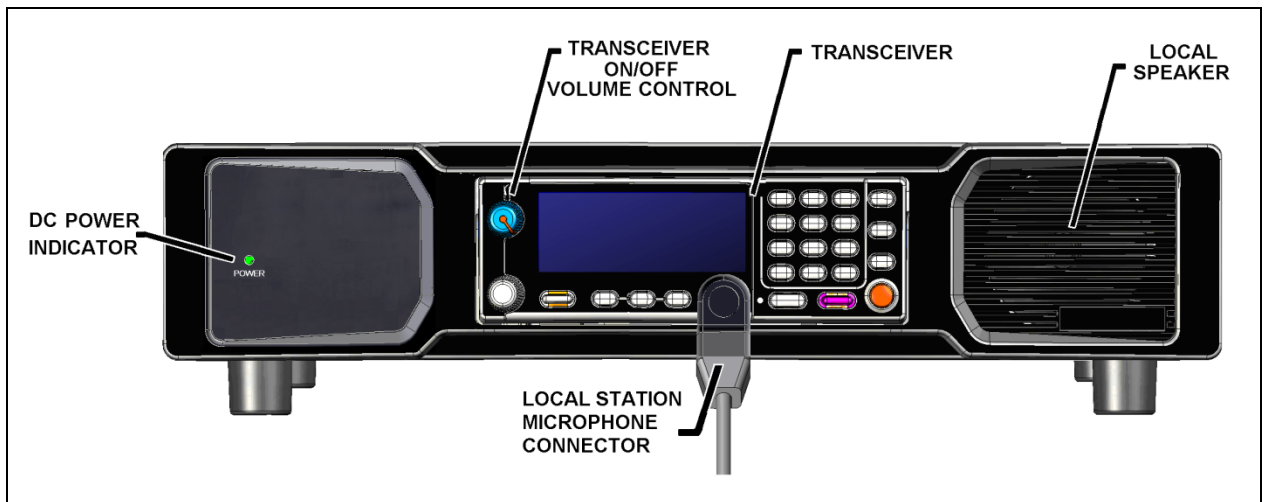

Figure 3-1: Front Panel Features – Local Control Station
The Local Control Station (shown in Figure 3-1), model CT-013892-001, includes front panel controls, indicators, and other features. The following sub-sections provide general descriptions of each feature.
The transceiver's microphone connector shown in Figure 3-1 is used for local control stations. Refer to Section 3.2.1 when connecting a microphone to a remote control station.
3. Turn on the transceiver's ON/OFF Power switch (refer to Figure 3-1).